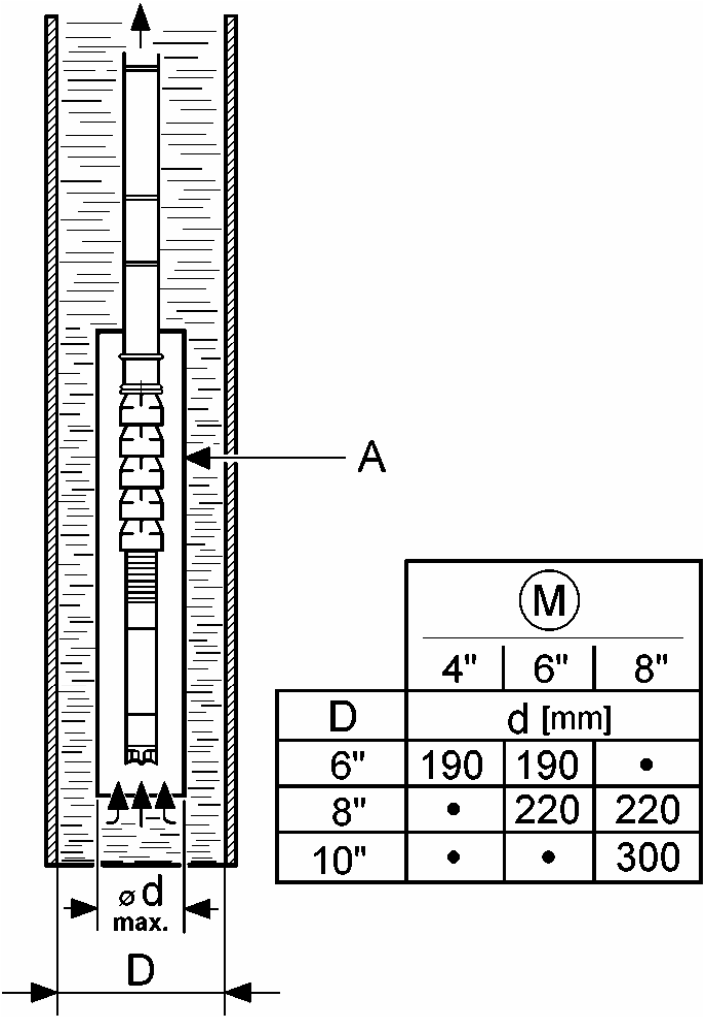

Fig. 2
**ATTENTION!** In the case of installation in a deep well (well shaft diameter greater than a bore-hole), a reservoir, horizontal installation or in a deep well, a cooling-shroud (accessory) must be fitted to the unit to ensure the motor is properly cooled (fig. 2, pos. A).